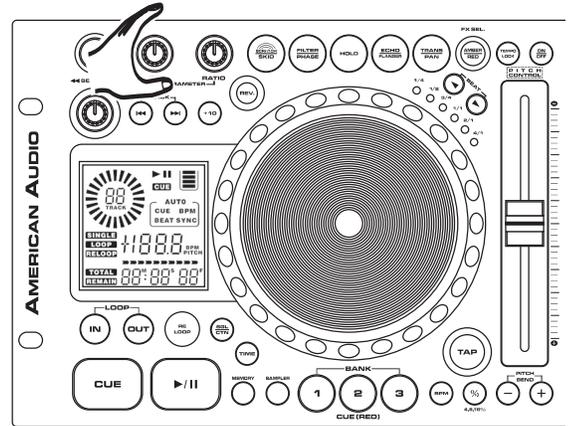

Figure 51
All the effects have adjustable parameters. The parameters change the way the effect will react. To enter the parameters menus for any of the effects, press or turn either of the two **PARAMETER KNOBS (2 OR 3)** as in figure 51. When the parameter mode is selected the time display in the **LCD (34)** will change to indicate the parameter you are adjusting. All effects except the pan effect have two adjustable parameters. **PARAMETER TIME (2)** and **PARAMETER RATIO (3)**. Use these knobs to customize the effects to your liking.